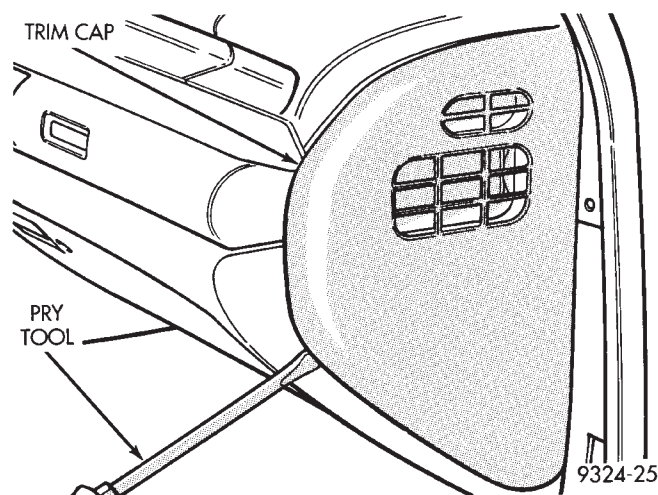

Fig. 1 Right Side Bezel Removal
- (7) Remove the three retaining nuts from the studs. These studs project through the dash panel into the engine compartment.
- (8) Remove right and left instrument panel end caps. These caps are held in place by a series of clips.
- (9) Remove right and left interior door post kick panel.
- (10) Remove right side bezel from instrument panel (Fig. 1).